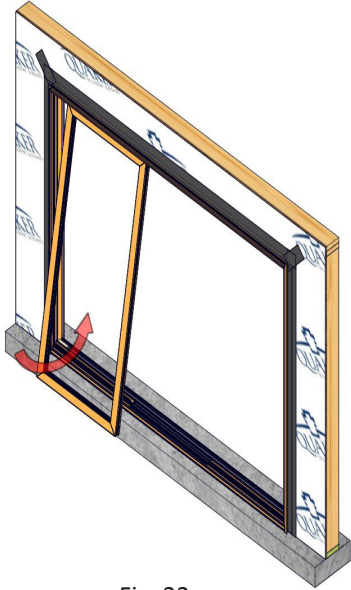

Fig. 22
1. Angle the fixed panel with the top inserted into the head track, and then lift and set the bottom of the panel on the fixed panel extrusion in the sill. (Fig. 22)